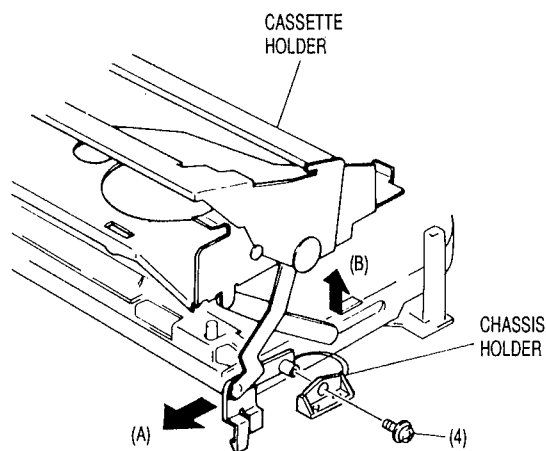

Fig. 3-4
- 5) Remove 1 screw (4) holding the cassette holder and chassis holder. (See Fig. 3-4)
- 6) Move the front arm of the cassette holder in the direction of arrow (A).
- 7) Move the rear arm of the cassette holder in the direction of arrow (B).